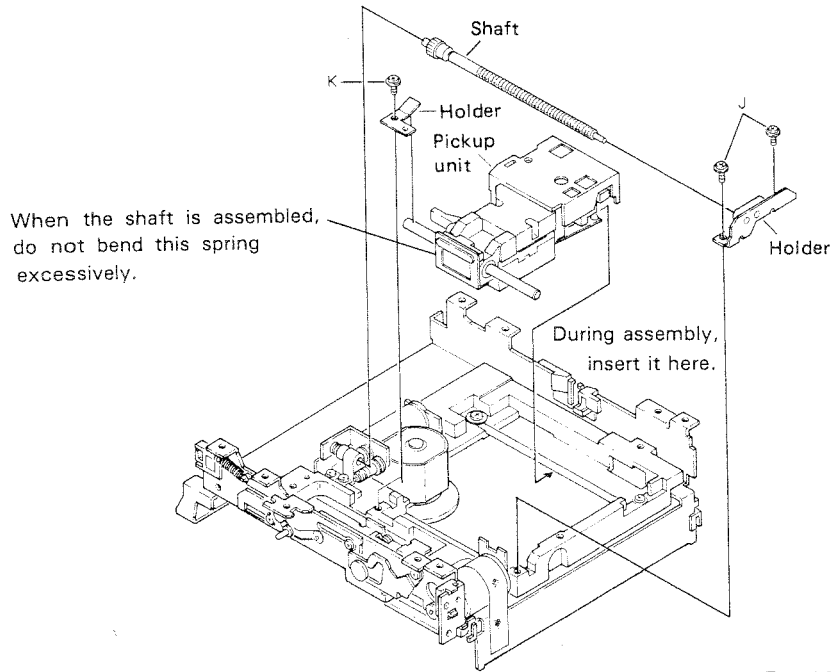

Fig. 19
1. Lower the pickup unit toward the back. (It can be shifted manually if shaft deviation is performed as shown in Fig. 19.)
• Pickup Unit Removal (Fig. 19)